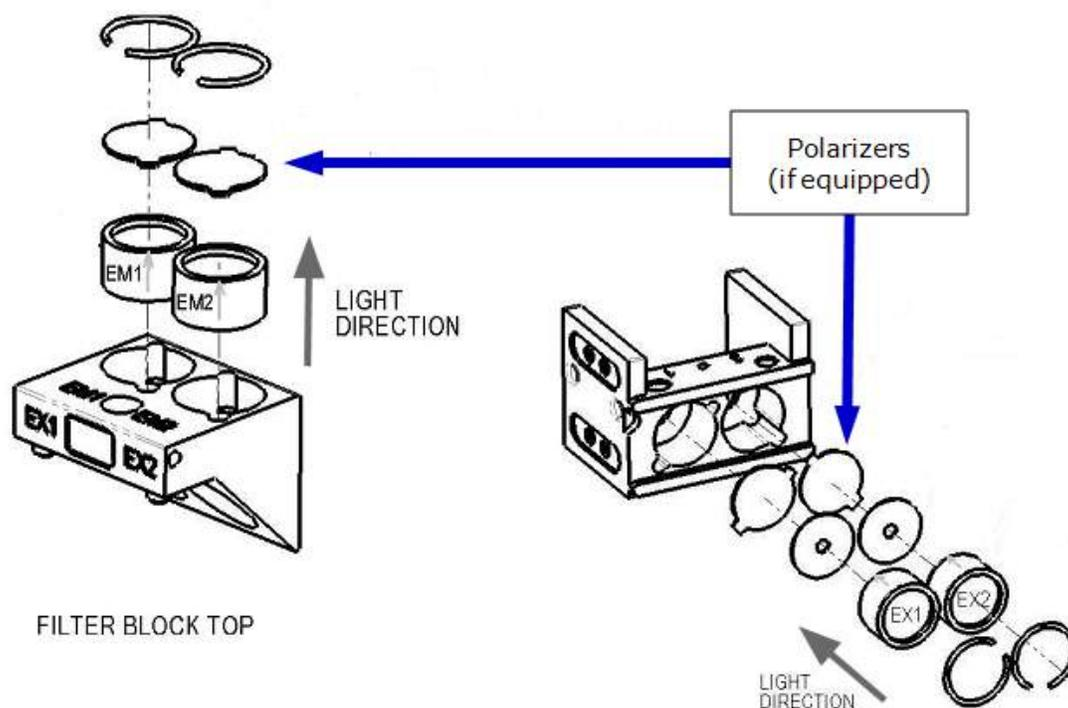
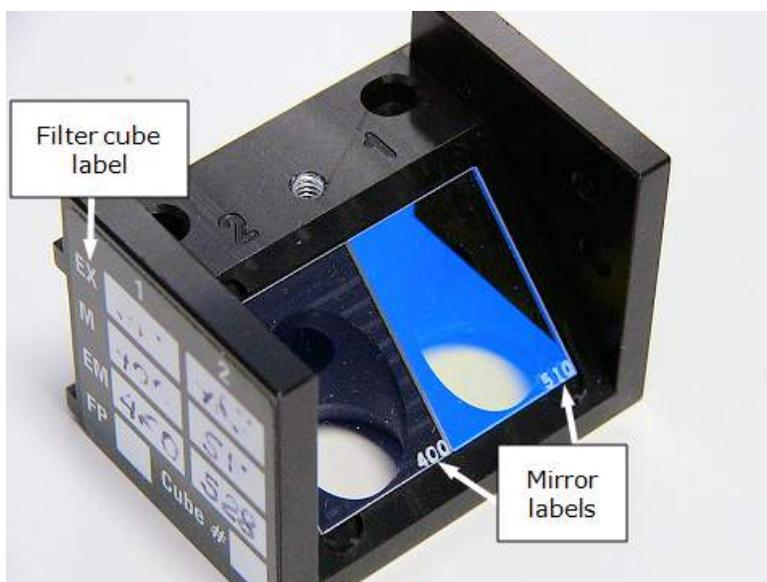

Figure 4-2: Proper orientation of the EX (left) and EM (right) filters in the filter cube
Figure 4-3: Two half-size mirrors positioned in the filter cube, with their labels in the lower-right corners
Filters are not specific to either excitation or emission. *Filter direction* within the filter cube is important, and as illustrated in Figure 4-2, the direction differs depending on the filter's placement in the cube (EX or EM). Each filter has its central wavelength and bandpass values printed on its side, with an arrow to indicate the proper direction of light through the filter.
Mirror direction is also important. The mirror label should be in the lower-right corner of the mirror and readable (see Figure 4-3 on the next page). If the mirror is positioned incorrectly, your measurement data may be inaccurate.
1. Ensure that all filters, plugs, and mirrors are inserted properly in the filter cube (see Figure 4-2 and Figure 4-3).
- a. Make note of the mirror placement and label orientation (refer to Figure 4-3 on page 46).
- a. Orient the filter as shown in Figure 4-2 on page 45, observing the arrow on its side which indicates the light direction. Drop the filter or plug into the desired location.
2. To replace a mirror, hold the mirror by its edges, turn it so that its label is face-up and readable (see Figure 4-3 on page 46), and place it on the shelf in the filter cube.